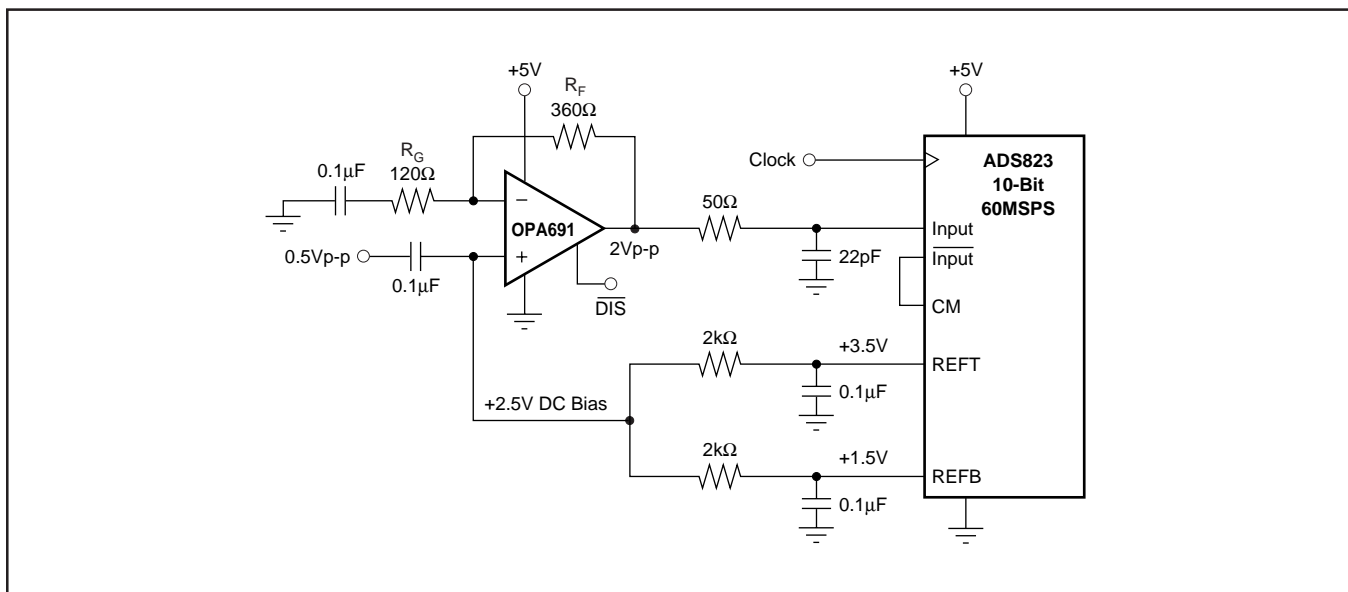

FIGURE 3. Wideband, AC-Coupled, Single-Supply ADC Driver.
Most modern, high performance ADCs (such as the Texas Instruments ADS8xx and ADS9xx series) operate on a single +5V (or lower) power supply. It has been a considerable challenge for single-supply op amps to deliver a low distortion input signal at the ADC input for signal frequencies exceeding 5MHz. The high slew rate, exceptional output swing, and high linearity of the OPA691 make it an ideal single-supply ADC driver. Figure 3 shows an example input interface to a very high performance, 10-bit, 60MSPS CMOS converter.
The OPA691 in the circuit of Figure 3 provides > 180MHz bandwidth operating at a signal gain of +4 with a 2Vpp output swing. One of the primary advantages of the current feedback internal architecture used in the OPA691 is that high bandwidth can be maintained as the signal gain is increased. The noninverting input bias voltage is referenced to the midpoint of the ADC signal range by dividing off the top and bottom of the internal ADC reference ladder. With the gain resistor (RG) AC-coupled, this bias voltage has a gain of +1 to the output, centering the output voltage swing as well. Tested performance at a 20MHz analog input frequency and a 60MSPS clock rate on the converter gives > 58dBc SFDR.